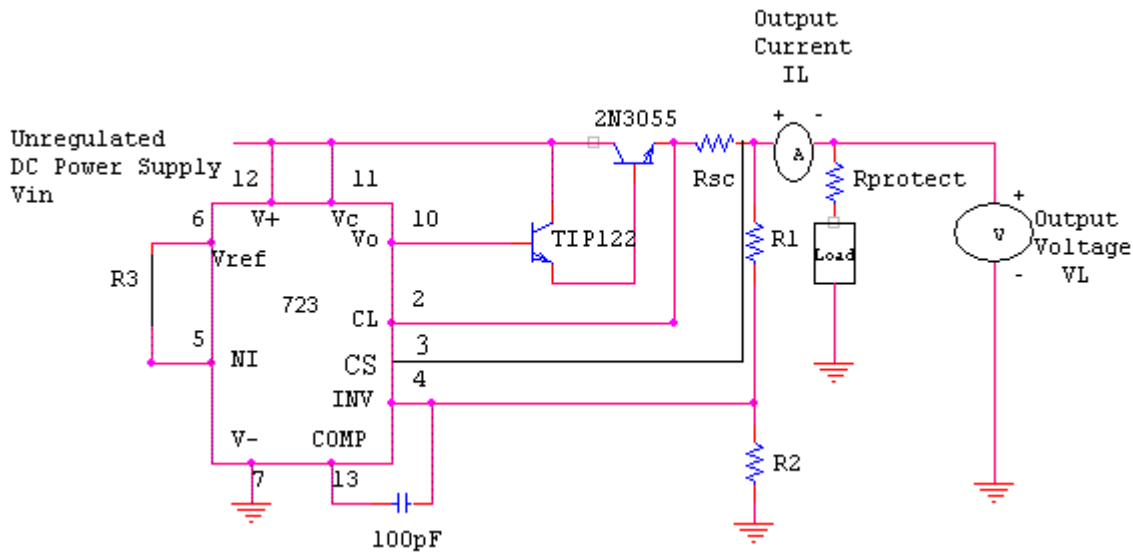

Fig. 1.2
1. Give the circuit connection as per the circuit diagram shown in Fig 1.2.